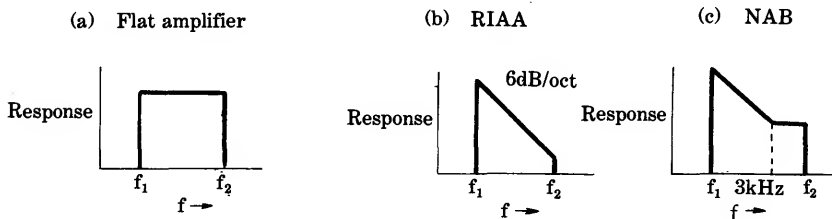

Fig. 18 Frequency response of wide-bandwidth amplifiers
From equations (22) and (25), the total noise figure NF_T of an amplifier, whose frequency response and bandwidth are as shown in Fig. 18(a), (b), and (c), can be obtained from the equations